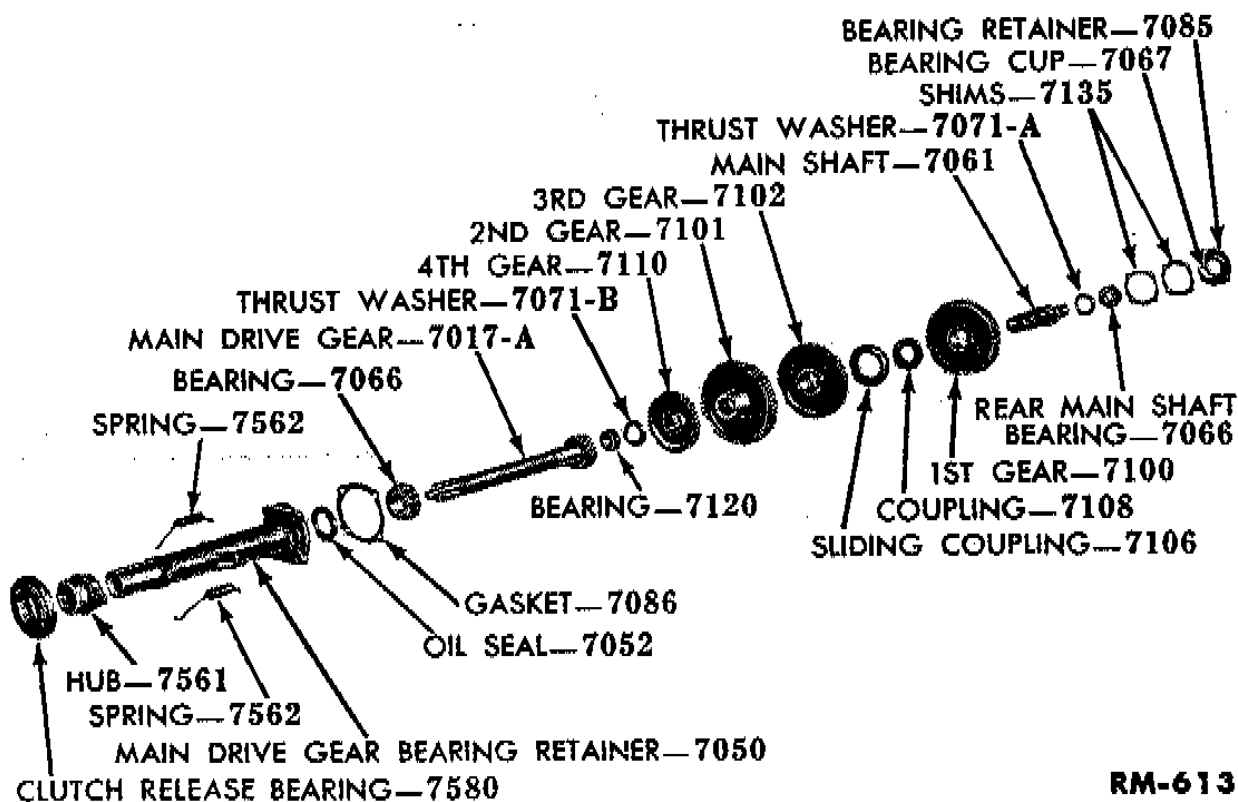

Fig. 11—Main Shaft Assembly, Disassembled
(1) **MAIN SHAFT ASSEMBLY.** Remove the bearing from the forward end of the main shaft (fig. 11). To remove the rear main shaft bearing, install a bearing puller on the 60T gear, and remove the gear, thrust washer, and bearing. Remove the rest of the gears from the shaft. Remove the forward roller bearing and the 20T main drive gear with a bearing puller.
a. **Main Shaft Assembly.** To assemble the main shaft, press the rear thrust washer and bearing on the shaft (fig. 11). Install the first gear (60T) on the shaft with the coupling teeth facing toward the front of the shaft. Install the coupling and sliding coupling on the shaft. Install the third gear (52T) on the shaft with the coupling teeth facing toward the coupling. Install the second (56T) and fourth gears (39T) on the shaft with the long end of the hubs touching each other. Install the thrust washer and bearing on the shaft.